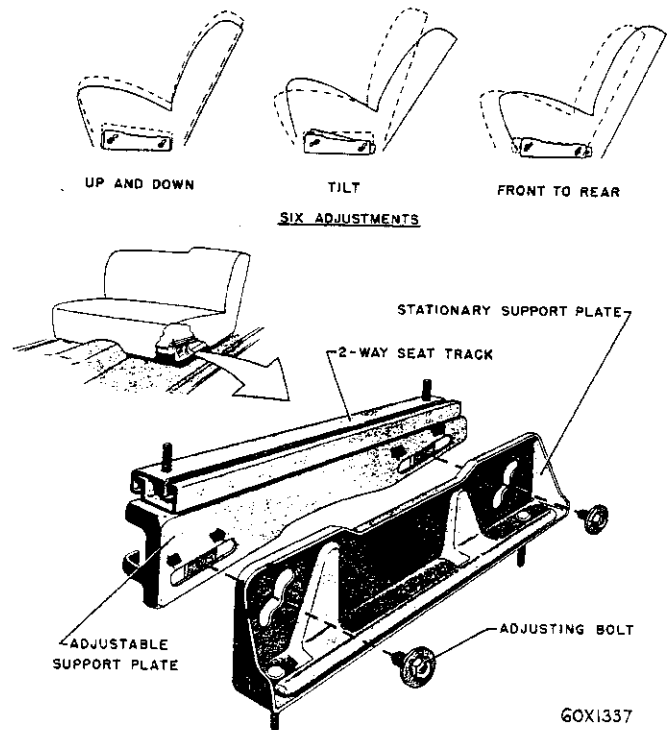

Fig. 69—Six-Way Slotted Track Seat Assembly
**CUSTOM POSITIONED SIX-WAY MANUAL FRONT SEAT ADJUSTMENT (Fig. 69)**
- (1) Loosen the four adjusting bolts (two in each seat base).
- (2) The horizontal slots allow a fore or aft movement of  $1\frac{5}{8}$  inches.
- (3) The vertical slots allow up, down or tilt movement of  $1\frac{1}{8}$  inches.
- (4) Position the seat as desired and tighten the bolts to lock it in place.